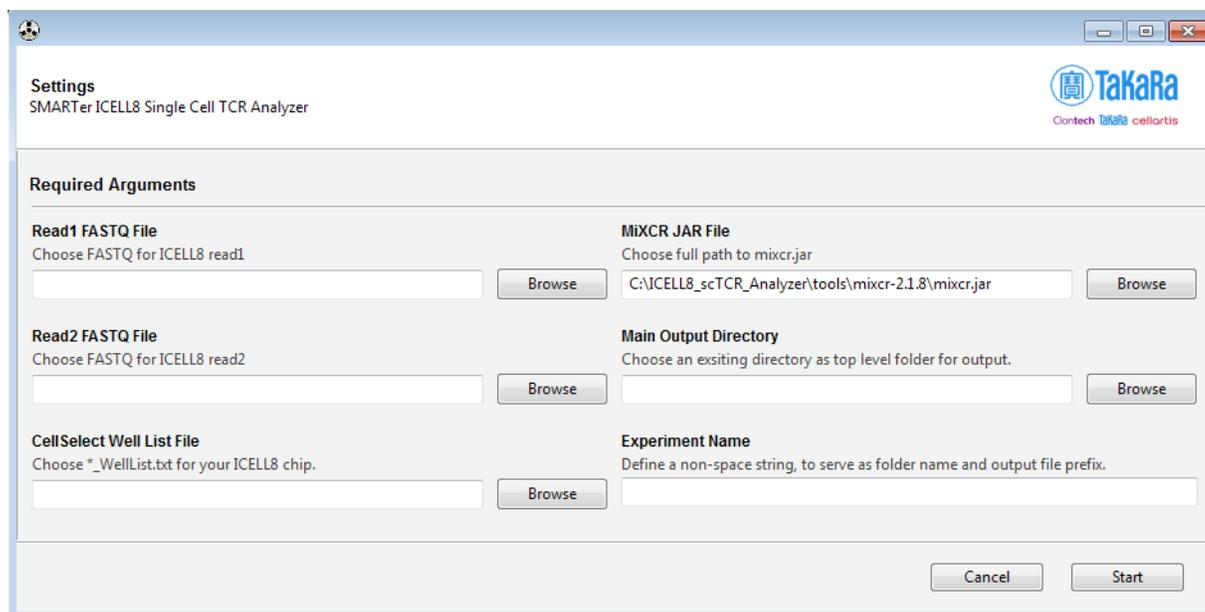

Figure 6. Initial *Settings* GUI page of the ICELL8 scTCR Analyzer.
2. In the *Settings* page (Figure 6), use the [Browse] button of each field to configure the following information.